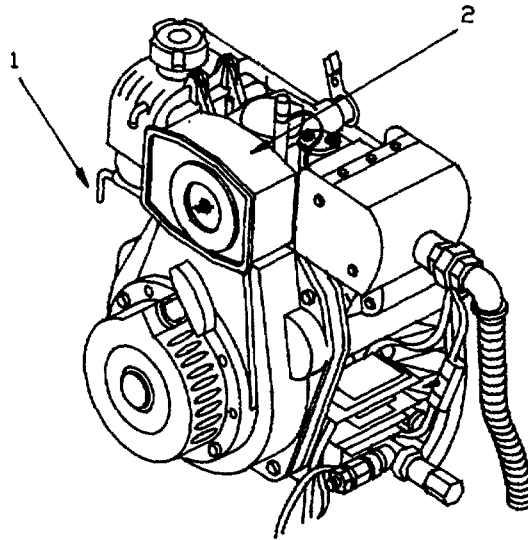

Figure 2-8. Engine Shutoff Screw Cock.
a. Make sure shutoff screw cock (1, Figure 2-8) below fuel tank assembly is in the down position.